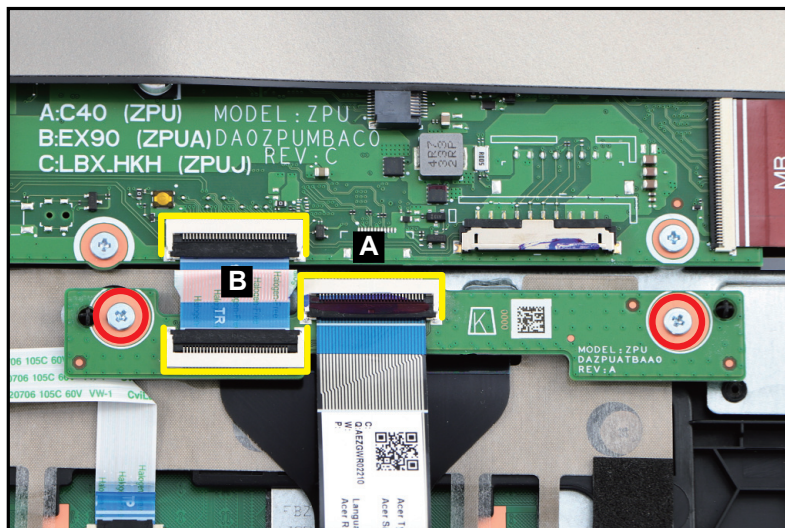

Figure 1-13. Transfer Board Removal
1. Disconnect the keyboard FPC from the transfer board connector (A) (Figure 1-13).
2. Disconnect the transfer board FFC (B) from the mainboard and transfer board connectors (Figure 1-13).
3. Remove two (2) screw securing the transfer board (Figure 1-13).